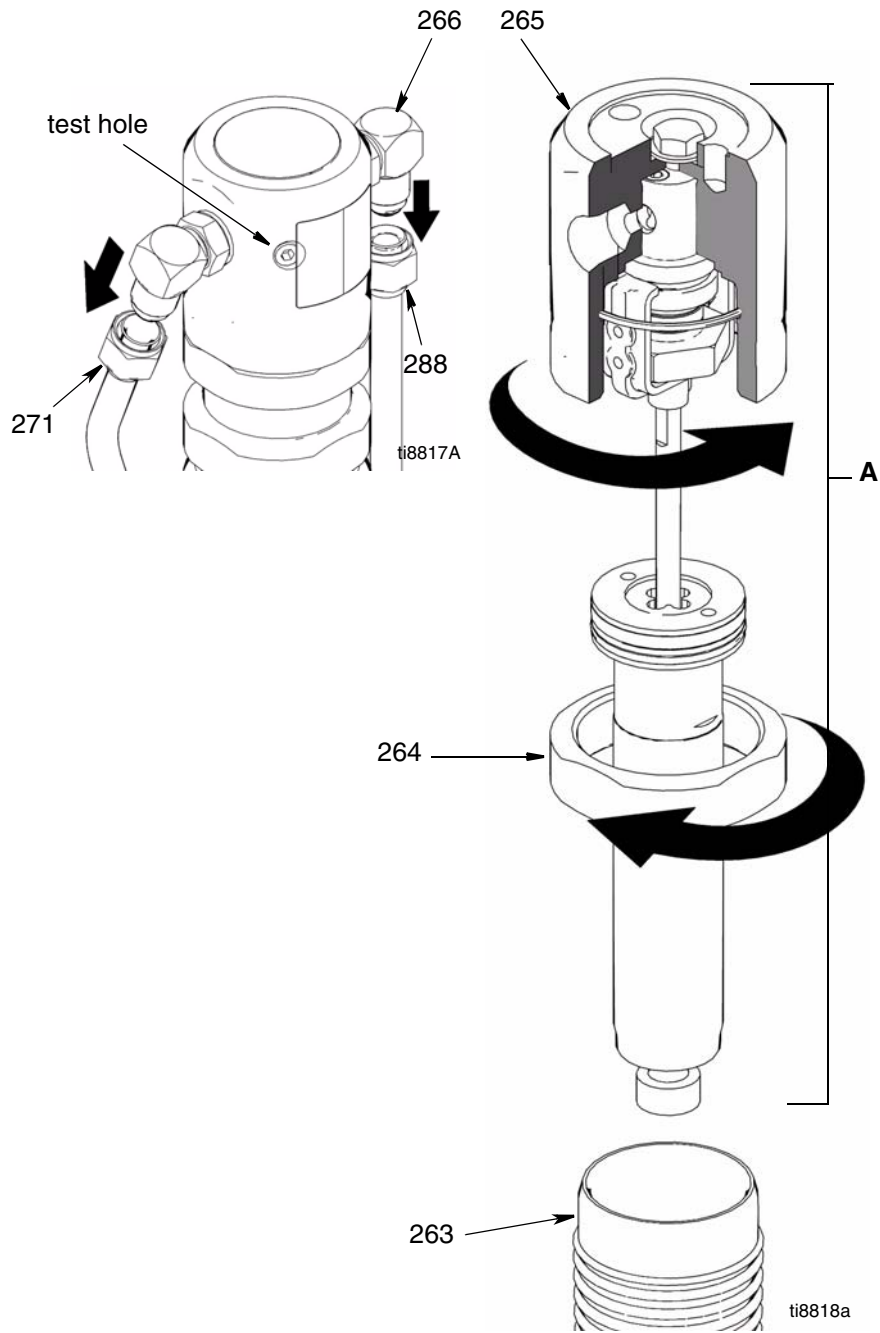

FIG. 5
4. FIG. 5. Remove hydraulic lines (271, 288) from fittings (226) at top left and right side of hydraulic motor.
5. Loosen jam nut (264).
6. Unscrew and remove hydraulic motor cap (265).
7. Slide piston rod/hydraulic motor cap assembly (A) from hydraulic motor cylinder (263).
1. Slide piston rod assembly (A) into hydraulic motor cylinder (263).
2. Screw down hydraulic motor cap (268). Unscrew hydraulic motor cap until inlet and outlet align with hydraulic line fittings and test hole in hydraulic motor cap points toward belt guard (117).
3. Torque jam nut (264) against hydraulic motor cap (268) to 150 ft-lb (17 N·m).
4. FIG. 5. Install hydraulic lines (271, 288) to fittings (226) to top left and right side of hydraulic motor; torque to 40 ft-lb (54.2 N·m).